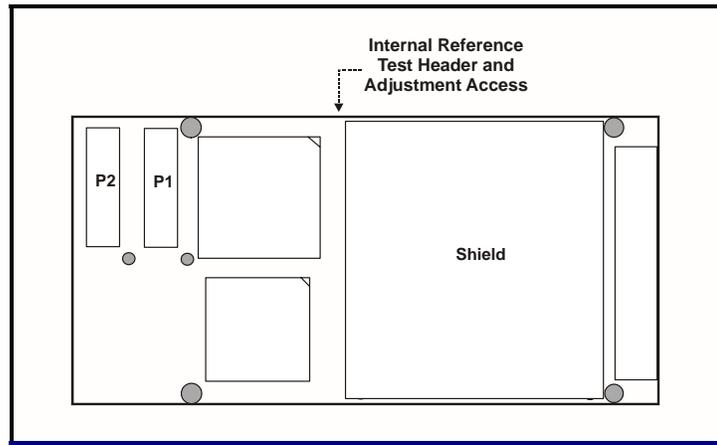

Figure 2.5-1. Reference Adjustment Access
This procedure describes the verification of the single reference voltage that ensures conformance to the product specification. Adjustment of the internal reference, if necessary, is performed with an internal trimmer that is accessible as shown in Figure 2.5-1. The board is assumed to be installed on an operational host board, and can be in any operating mode during the procedure.
1. Connect the digital multimeter between VTEST (+) Pin-2, and REF RTN (-) Pin-4 in the J4 test header (Figure 2.5-1).